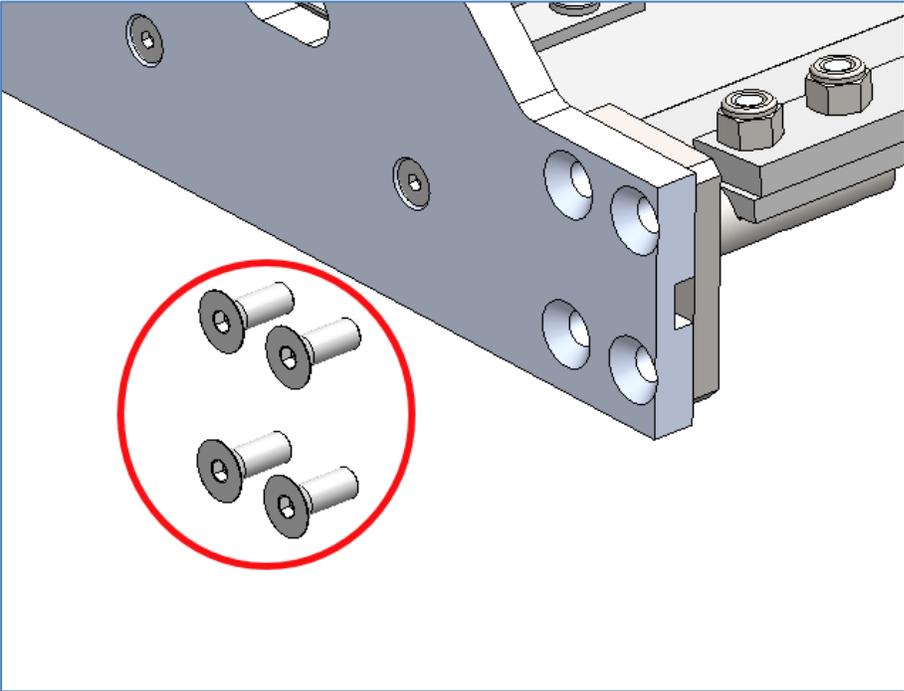

Figure 4
- 4) Use power tool with 5/32" hex drive bit or the 5/32" L-key to remove the screws located on both the left and right side of the front platform. See Figure 4. There should be a total of 8 screws removed.